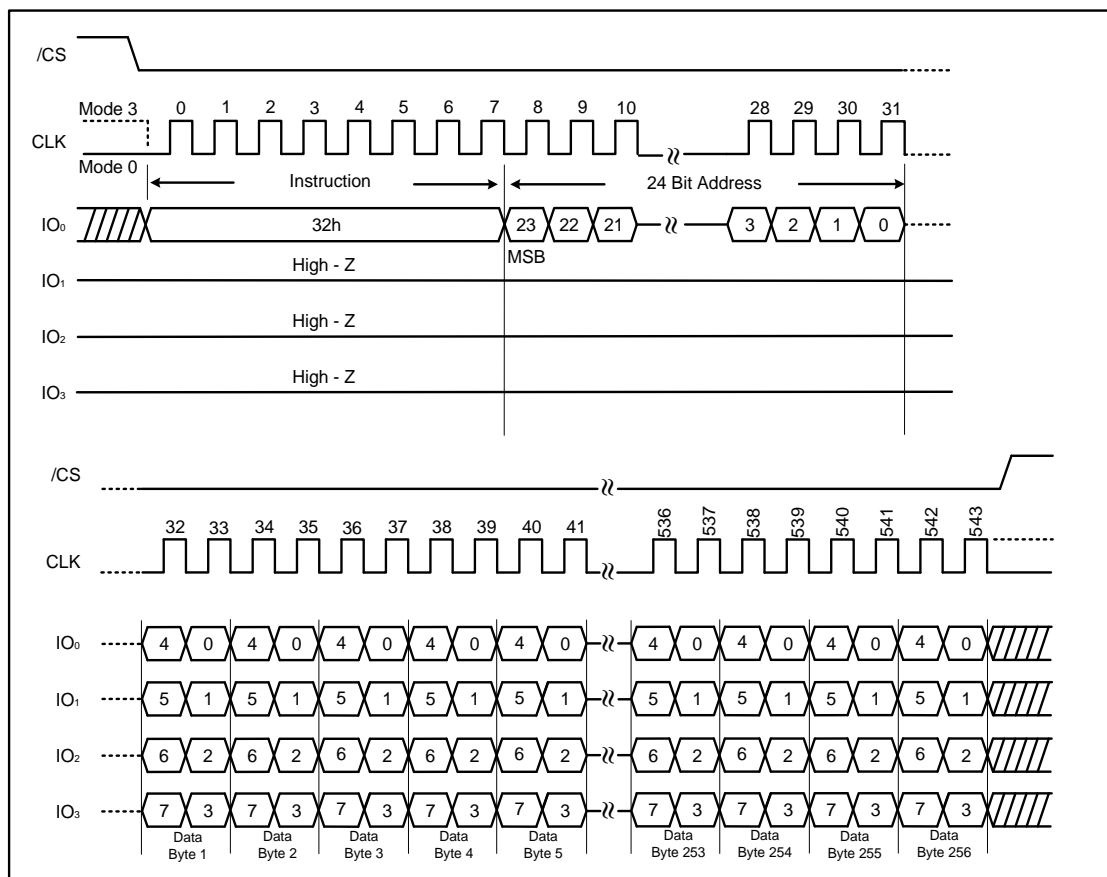

Figure 20. Quad Input Page Program Instruction (SPI Mode only)
To use Quad Input Page Program the Quad Enable (QE) bit in Status Register-2 must be set to 1. A Write Enable instruction must be executed before the device will accept the Quad Input Page Program instruction (Status Register-1, WEL=1). The instruction is initiated by driving the /CS pin low then shifting the instruction code "32h" followed by a 24-bit address (A23-A0) and at least one data byte, into the IO pins. The /CS pin must be held low for the entire length of the instruction while data is being sent to the device. All other functions of Quad Input Page Program are identical to standard Page Program. The Quad Input Page Program instruction sequence is shown in Figure 20.